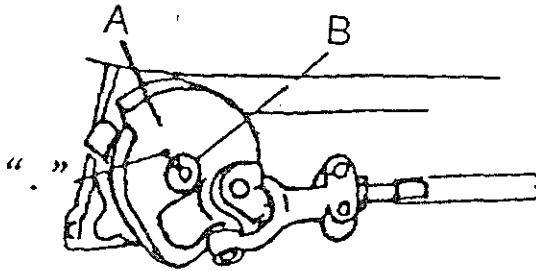

Fig. 19
The standard position of the spreader is obtained by Crank A and Shaft B. When assembling align the dot on the crank with the center of the V slot of the shaft. (fig. 19)
- a. Adjust the position of the dot point on the crank in relation to the V slot of the shaft (Fig. 19).